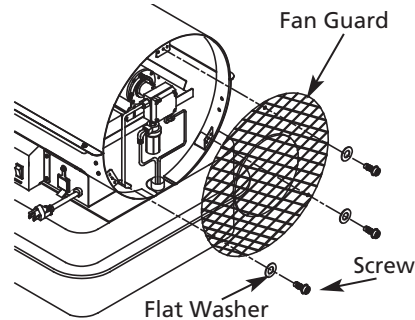

Figure 17 – Remove Fan Guard
- Remove fan guard (See Figure 17).
- Use 3/8" wrench and tighten fuel line (B) at pump and pump fuel filter assembly.